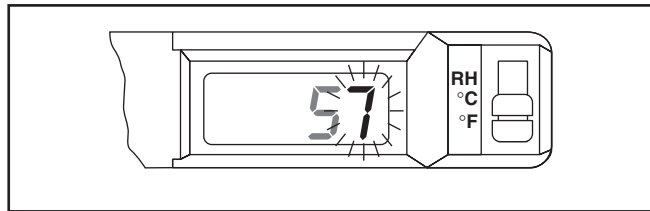

Figure 5-3. Humidity Code - Second Character Blinking
6. The second character should now be blinking. Refer to Figure 5-3. If it is not, press the "SET" button until it does.